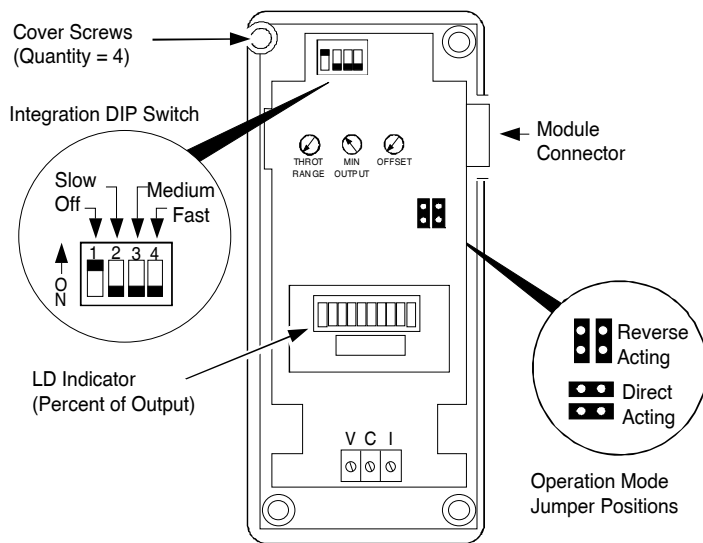
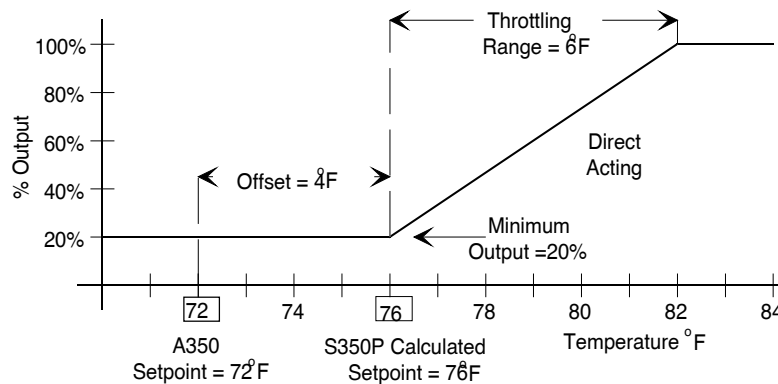

Figure 2: Interior View Illustrating S350P Features
Figure 5: Example of S350P Adjustments
The offset can be adjusted from 0 to 30F° (0 to 17C°). The offset adjustment determines the amount of offset between the A350's setpoint and where the S350P's throttling range begins (refer to Figure 5). This adjustment is made using the potentiometer marked OFFSET located at the upper portion of the circuit board (refer to Figure 2).
Select the RA/DA mode by positioning the operation mode jumpers either vertically or horizontally (refer to Figure 2). Position the operation mode jumpers vertically for Reverse Action (RA) or horizontally for Direct Action (DA).
The throttling range can be adjusted from 2 to 30F° (1 to 17C°). Make the adjustment at the throttling range potentiometer marked THROT RANGE (refer to Figure 2).
4. Reinstall the potentiometer knobs so the arrows are at the furthest counterclockwise scale position (refer to Figure 2).
Make the adjustment at the minimum output potentiometer marked as MIN OUTPUT (Figure 2). For each 10% increase in range, one bar on the LED indicator appears.
The S350P has three field-selectable integration constants and an off position. The integration DIP switch selects the integration constant. (Refer to Figure 2 for location.) The field-selectable integration constants include:
1. Remove S350P cover by loosening the four cover screws (Figure 2).
2. Set the RA/DA operation mode jumpers to the desired mode of operation. Position the operation mode jumpers vertically for RA (Reverse Acting) or horizontally for DA (Direct Acting) (Figure 2).
5. If minimum output is required, set the minimum output potentiometer (labeled MIN OUT) to the desired position (Figure 2). Output can be read with a voltmeter or can be adjusted using the ten segment, front panel LED.